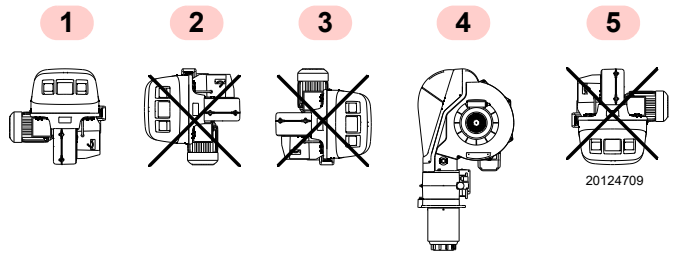

Fig. 10
- The burner is designed to work only in positions 1 and 4 (Fig. 10).